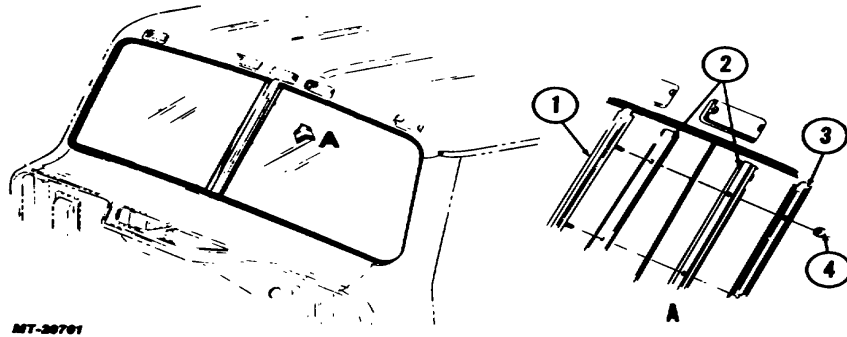

Fig. 33. Details of Windshleld Division Bar (230 cm or 90 Inch Cob Only)
4. If windshield is two piece type remove inner and outer division bars and seals (Fig. 33).
4. For two piece type windshield install inner and outer division bars and seals. Check seal details (Fig. 33).